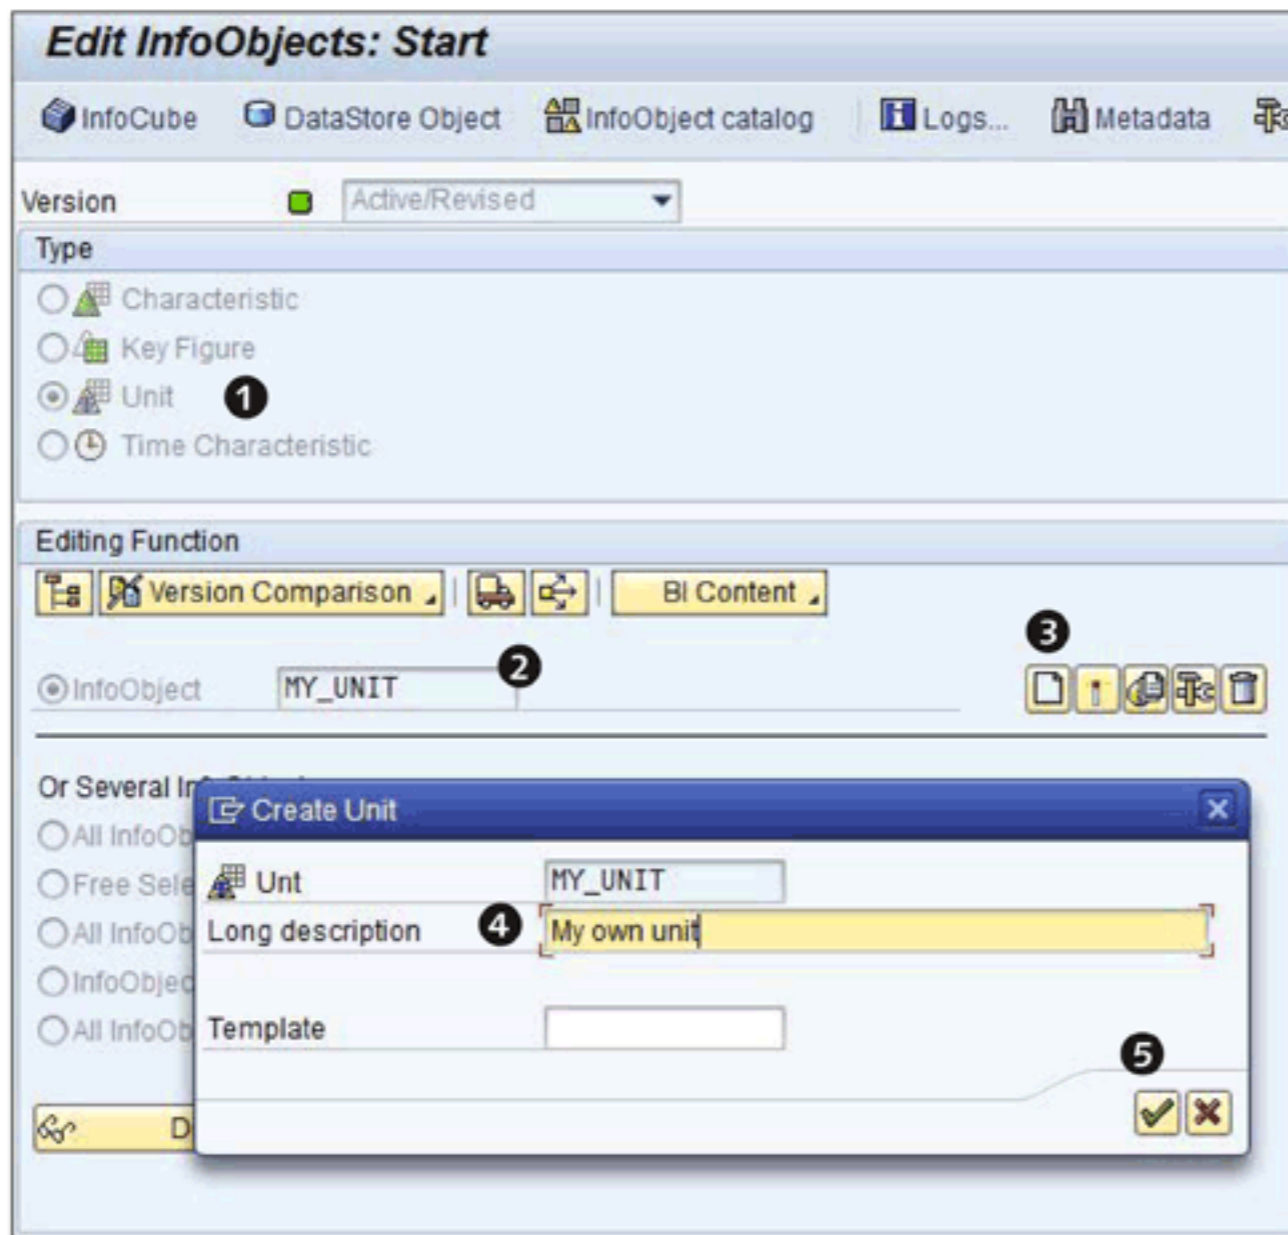
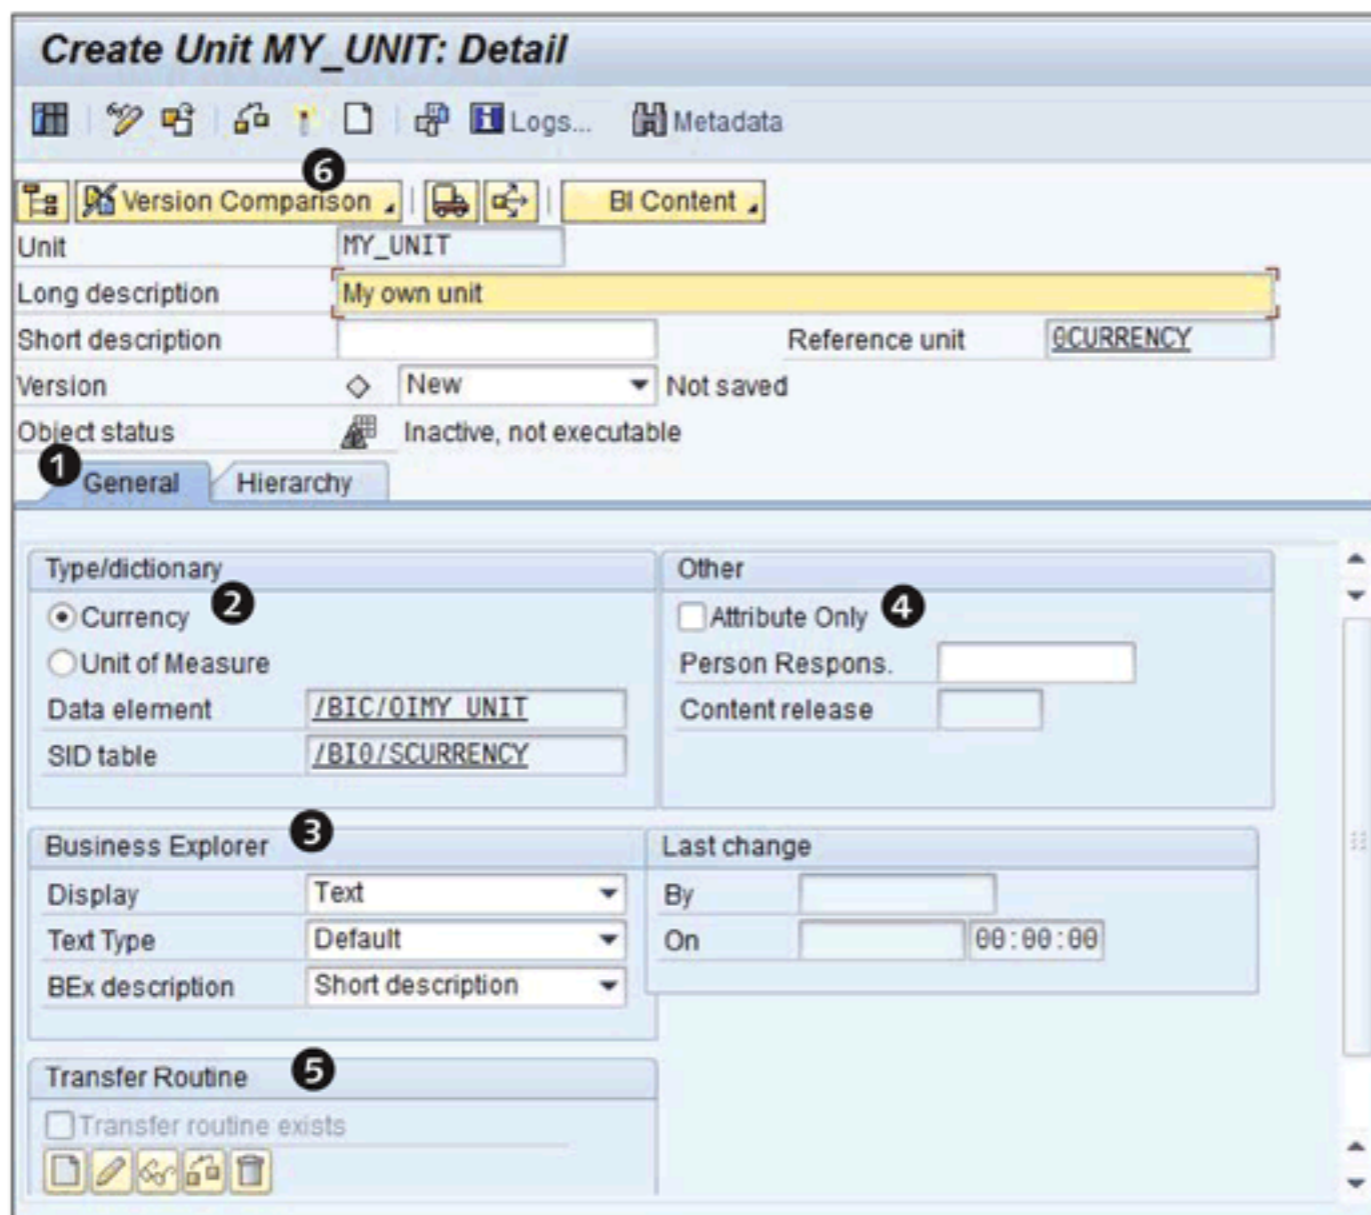

Figure 3.49 Creating a Custom Unit InfoObject: Part 1
Figure 3.50 Creating a Custom Unit InfoObject: Part 2
1. Use Transaction RSD1 to open the EDIT INFOOBJECTS: START screen (Figure 3.49).
2. Select UNIT from the TYPE area (1 of Figure 3.49).
3. Enter the technical name for the unit (2).
4. Click on the CREATE icon (3).
5. In the CREATE UNIT box, enter the long description (4).
6. Click on the CONTINUE button (5). The next screen displays the InfoObject definition and the GENERAL tab (as shown in 1 of Figure 3.50).
7. Select either CURRENCY or UNIT OF MEASURE, as shown in 2 of Figure 3.50. Unit InfoObjects are always created with reference to the SAP-delivered definition of unit/currency. So, if the data type is selected as CURRENCY, the reference unit is always OCURRENCY. If UNIT is selected, the reference unit is always OUNIT.
Other settings are shown in ③, ④, and ⑤ of Figure 3.50. These settings have the same meaning as those explained in Sections 3.5.1 and 3.5.2.
8. Activate your unit InfoObject (⑥).